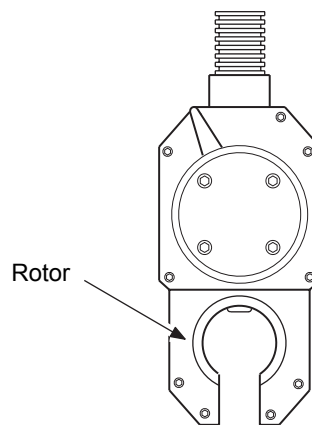

Figure 10 Positioning the Weld Head to View the Rotor Rotation
4. Position the weld head so that the rotor can be easily seen. See Figure 10. Do not have the fixture block attached to the weld head.